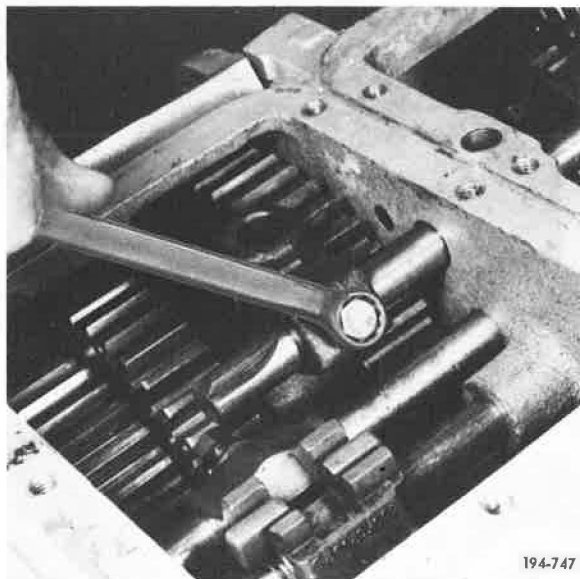

Figure 412. Installing Setscrew
30. (Rearward Controls Only) Install front compound shifter setscrew, and tighten to 35 to 45 lb. ft. torque. Refer to Torque and Tolerance Table, Item 10. See Figure 412.